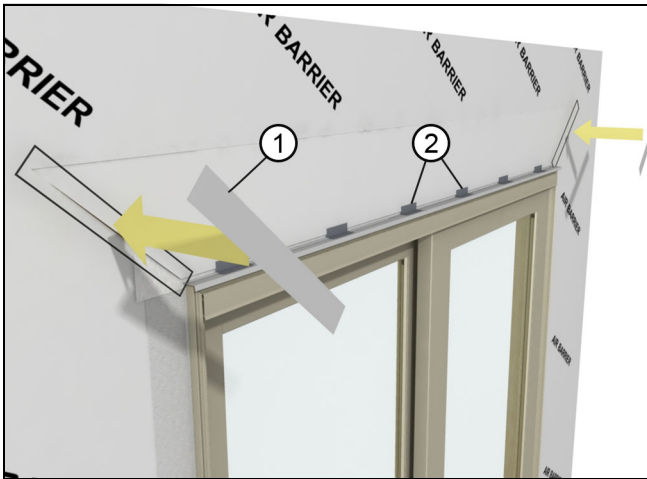

Figure 62
5. Fold the head jamb air barrier down over the head jamb flashing. Apply seam seal tape over the diagonal cut in the air barrier. Make sure the tape laps onto the unit or casing. Cut 3" (76) strips of tape and install every 12" (305) along the head jamb. Tape and seal any seams and fasteners directly above the unit. See Figure 62.